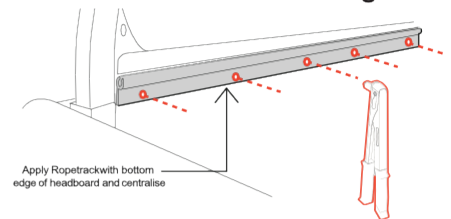

Figure F2
- Sit the flat side of the assembled rope track on the tailgate side of the headboard with the 'C' channel facing upward and align the bottom edge of the rope track with the bottom edge of the headboard then centralise the rope track (Figure F2).